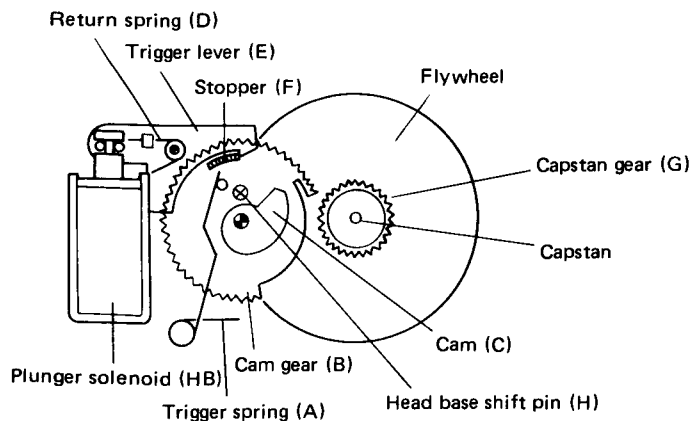

Fig. 4-1 Head base shift mechanism (STOP status)
● **When Stopping (Fig. 4-1)**
The head base shift mechanism during stop mode is outlined in Fig. 4-1. In this state, cam (C), stopper (F), and cam gear (B) combine to form a single unit. The flywheel is belt-driven by the capstan motor and rotates counterclockwise together with the capstan gear (G). The trigger spring applies clockwise torque to cam gear (B).
9. The plunger solenoid (HB) is deactivated.
10. Spring (D) disengages lever (E) from stopper (F).
11. Gear (B) rotates due to spring (A).
12. The shift pin (H) is lowered by cam (C).
13. Stopper (F) is caught by the hook of lever (E), bringing the mechanism to the same stop state as shown in Fig. 4-1 (stop mode).